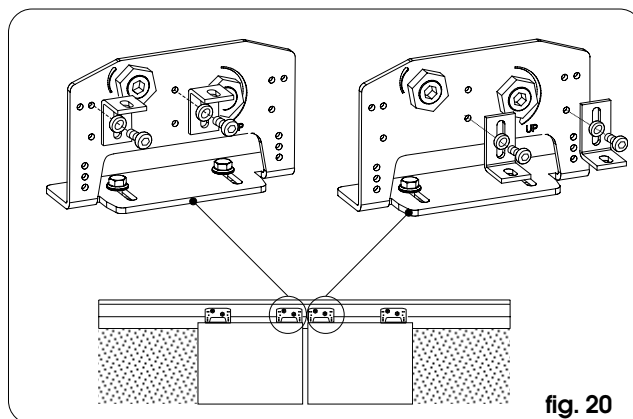
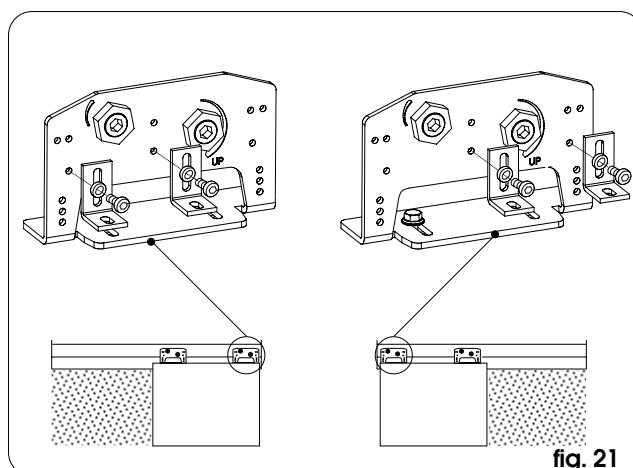

fig. 20
fig. 21
- Fit the supports of the movement rods on the carriages as shown in fig. 20 (double-leaf door) and fig. 21 (single-leaf door).